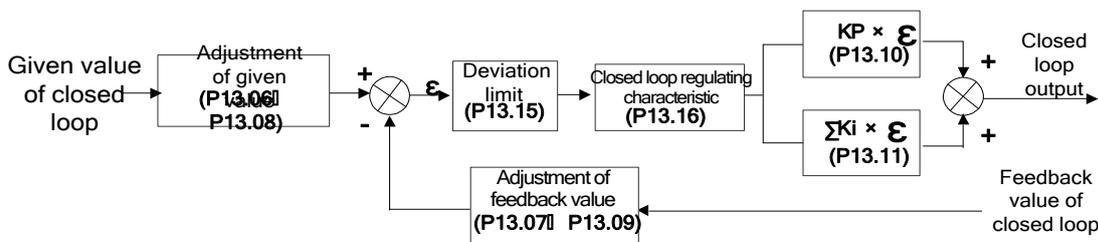
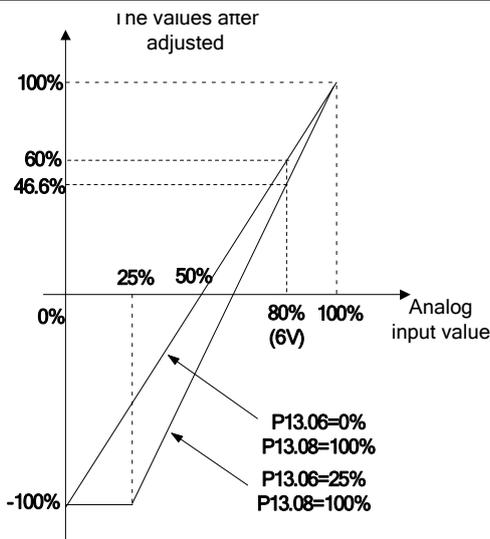

Fig.6-61 Schematic Diagram of Process Closed Loop Control
Fig.6-64 Given Value Adjustment Curve Diagram
The block diagram of working principle of HSD2000 built-in process closed loop is given in Fig. 6-61; KP: proportional gain; Ki: integral gain.
In Fig. 6-61, the definitions of given value, feedback value, deviation limit and proportional integral parameters of closed loop are the same as ordinary closed loop regulation meaning, respectively see P13.01~P13.15 definitions.
The meaning of adjustment of given value and feedback value in Fig. 6-61 is that given value and feedback value adopt internal unified value.
The relation of given value adjustment in P13.06 and P13.08 in Fig. 6-61 is as shown in Fig. 6-64. When analog input is 6V, if P13.06 = 0% and P13.08 = 100%, the converted value after adjustment is 60%; if P13.06 = 25% and P13.08 = 100%, the converted value after adjustment is 46.6%.
- As shown in Fig. 6-64, scaling analog input of horizontal axis 0% ~ 100% is -10V ~ 10V; analog input 10V corresponds to 100% and -10V corresponds to 0%, and 6V corresponds to 80%.
As shown in Fig. 6-61, the relation curve of feedback value adjustment in P13.07 and P13.09 is relative to the adjustment of given value. The values after adjusted can be observed by the function code P01.29.